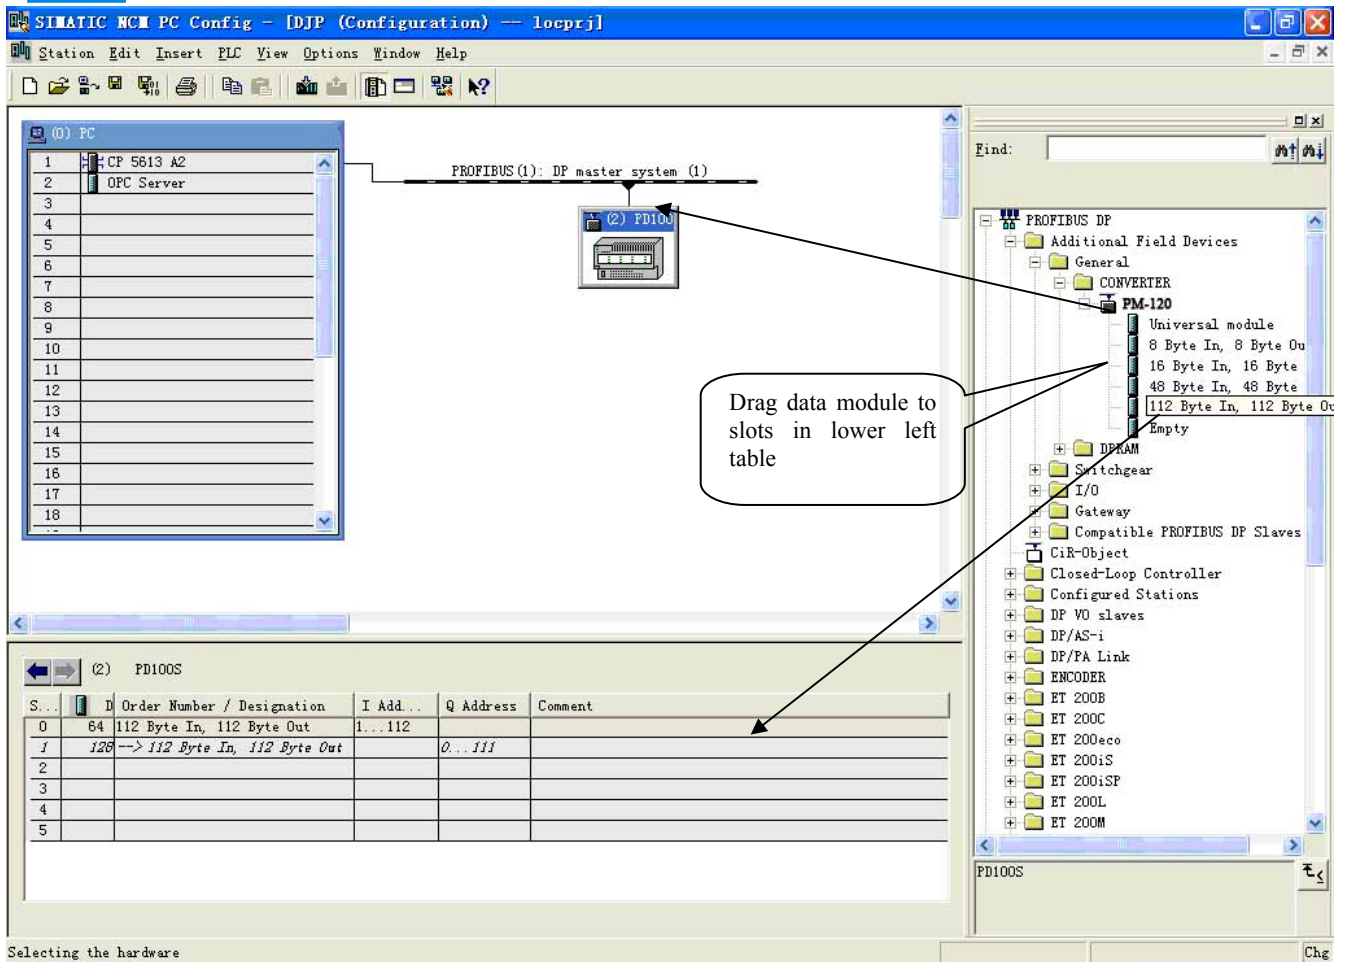

Figure 10
11. Drag PCO-150 to Profibus-DP network bus, and drag data modules to slots, that is mapping the input and output data module into master controller's memory. Figure 10: